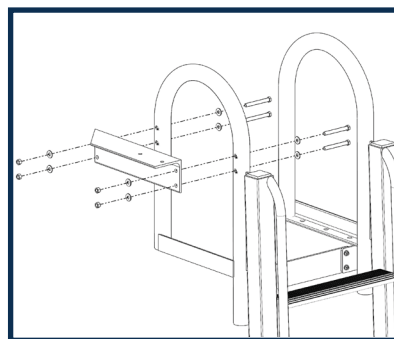

FIGURE 4
- Attach winch mount plate to handrail (R) using hardware provided in Kit #4 to complete winch mount plate assembly. See Figure 4.